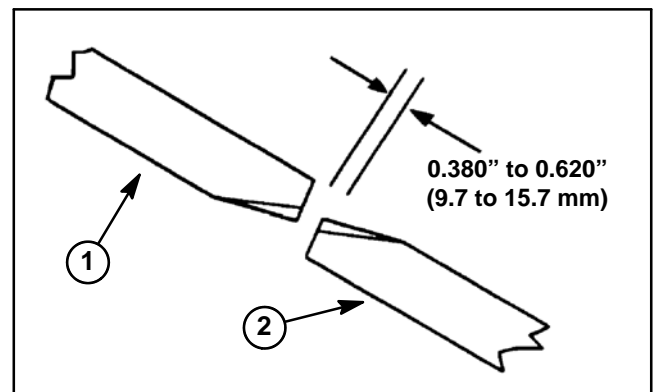

Figure 9
13. Check distance between inner deck blade on wing deck and outer deck blade on center deck. Distance between blades should be 0.380" to 0.620" (9.7 to 15.7 mm) (Fig. 9). If blade distance is incorrect, loosen hex jam nut (item 32) on rear link assembly and adjust cap screw (item 31). Tighten jam nut when blade distance is correct.
15. Secure switch shield (item 50) to center deck.